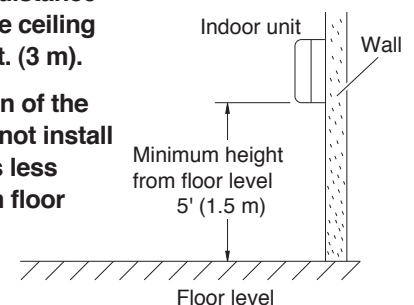

Fig. 3b
- For stable operation of the air conditioner, do not install wall-mounted units less than 5' (1.5 m) from floor level. (Fig. 3b)